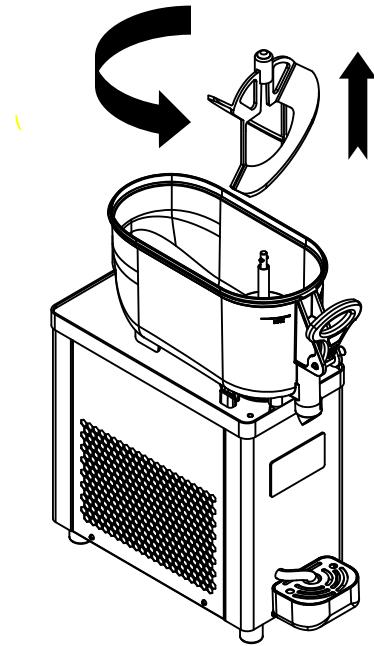

Fig.2
- Residue and rinse outTo remove the paddle, turn it counter clockwise and after pull it as in the picture. (Fig.2)